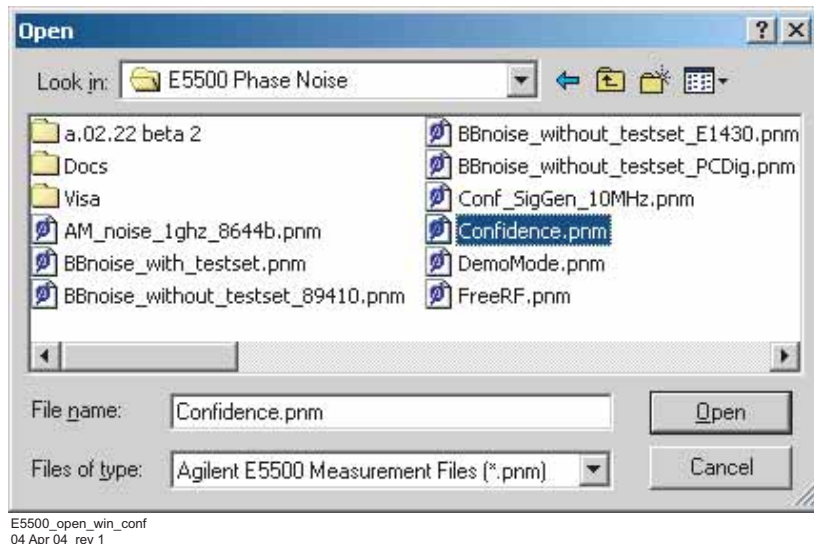

Figure 26 Opening the parameters definition file
- 3 In the *File Name* box, open *Confidence.pnm*. See Figure 26.